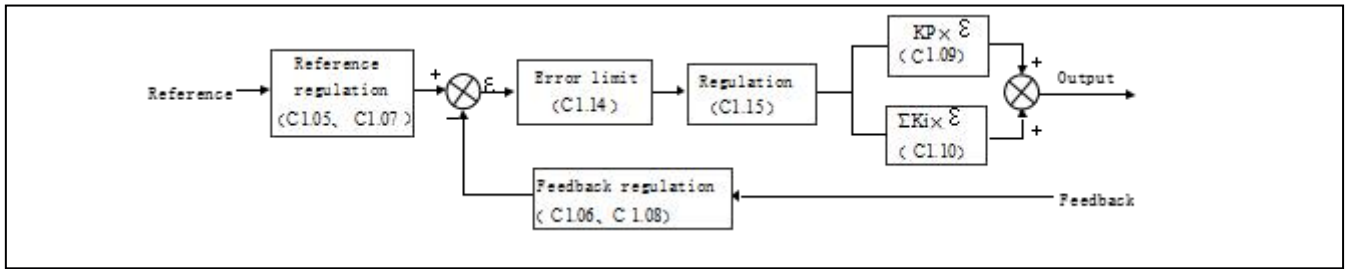
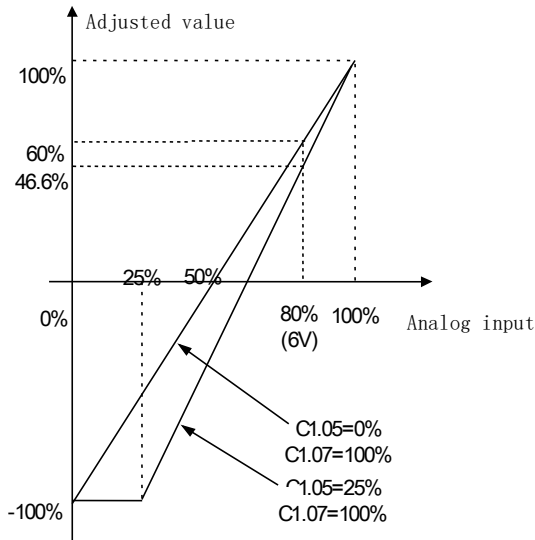

Fig.6-41 Principle diagram of process close-loop control
Fig.6-43 Regulation curve of reference
Operating principles of internal process close-loop of FV20 is shown in the Fig. 6-41
In Fig. 6-41, refer to C1.00~C1.14 for the definitions of close-loop reference, feedback, error limit and proportional and Integral parameters
The regulation relationship between C1.05,C1.07(in Fig.6-41) and reference is shown in Fig.6-43. When the analog input 6V, if C1.05 = 0 % and C1.07 = 100% , then adjusted value is 60 % . If C1.05 = 25 % and C1.07 = 100% , then the adjusted value is 46.6% .
- 1 . Fig.6-43, 0% ~ 100% in X axis is corresponding to analog input - 10V ~ 10V, 10V of analog input is corresponding to 100%, and - 10V is corresponding to 0%, 6V is corresponding to 80% .
The regulation relationship between C1.06, C1.08 (in Fig.6-41) and feedback is similar to reference regulation. Its adjusted value can be observed in d0.25.